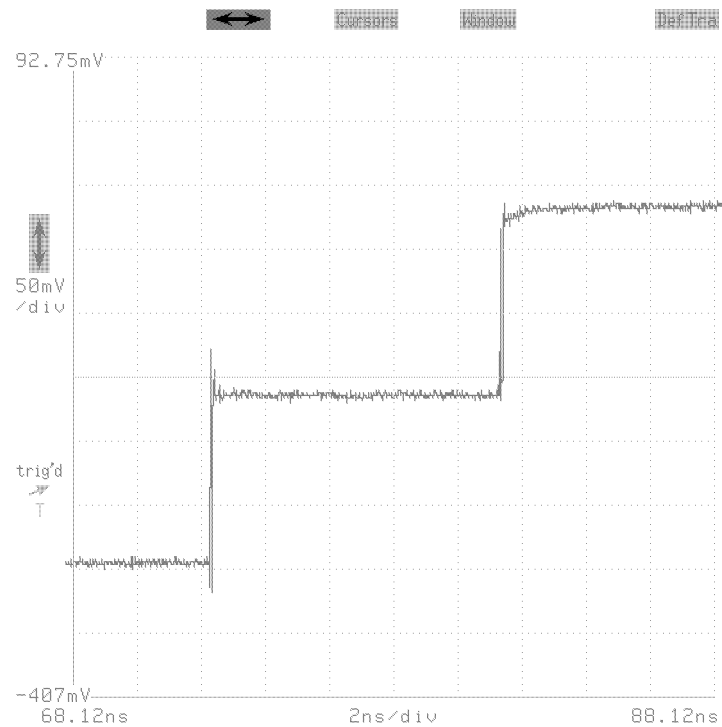

Figure 12: TDR Step and Reflection
- ☐ **Step 7:** Adjust the display sizes and positions to show a trace similar to that shown in Figure 12. The vertical (\updownarrow) and horizontal (\leftrightarrow) icons will let you make fine adjustments.